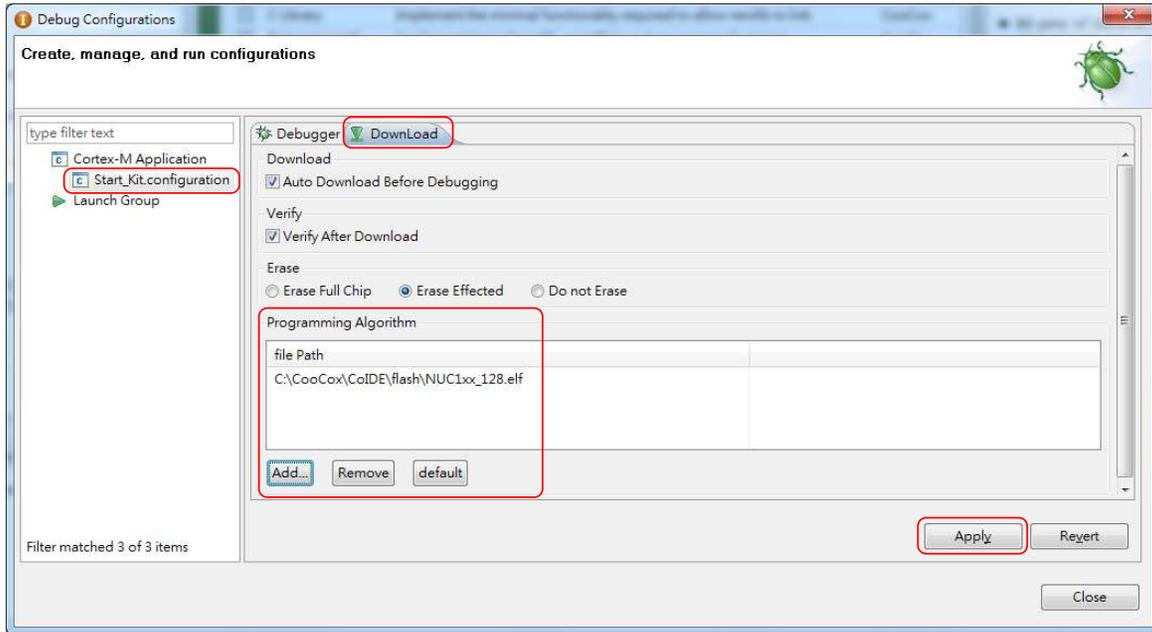

Figure 4-21 CooCox CoIDE Programming Settings
Step 4: In the **Download** tab of the *Debug Configurations* form (through invoking **Debug** → **Debug Configurations**), select the **Auto Download Before Debugging** or **Verify After Download** option to proceed with a specific programming, and set the Programming Algorithm path as "*C:\CooCox\CoIDE\flash\NUC1xx_128.elf*", as shown in Figure 4-21.
Step 6: At last, click **Apply** to save the settings, as shown in Figure 4-21.